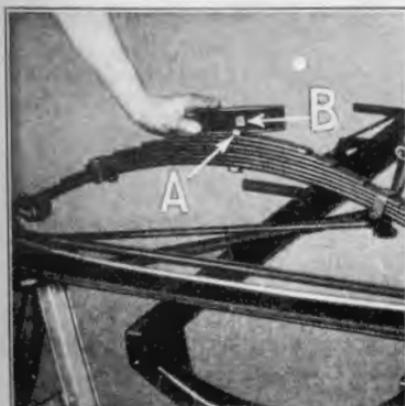

Fig. 62
- 62 **Install spring pad**—Place front axle assembly on jacks. Position spring pad on top of front spring, making sure that head of tie bolt (See "A" Fig. 62), enters hole "B" in spring pad.